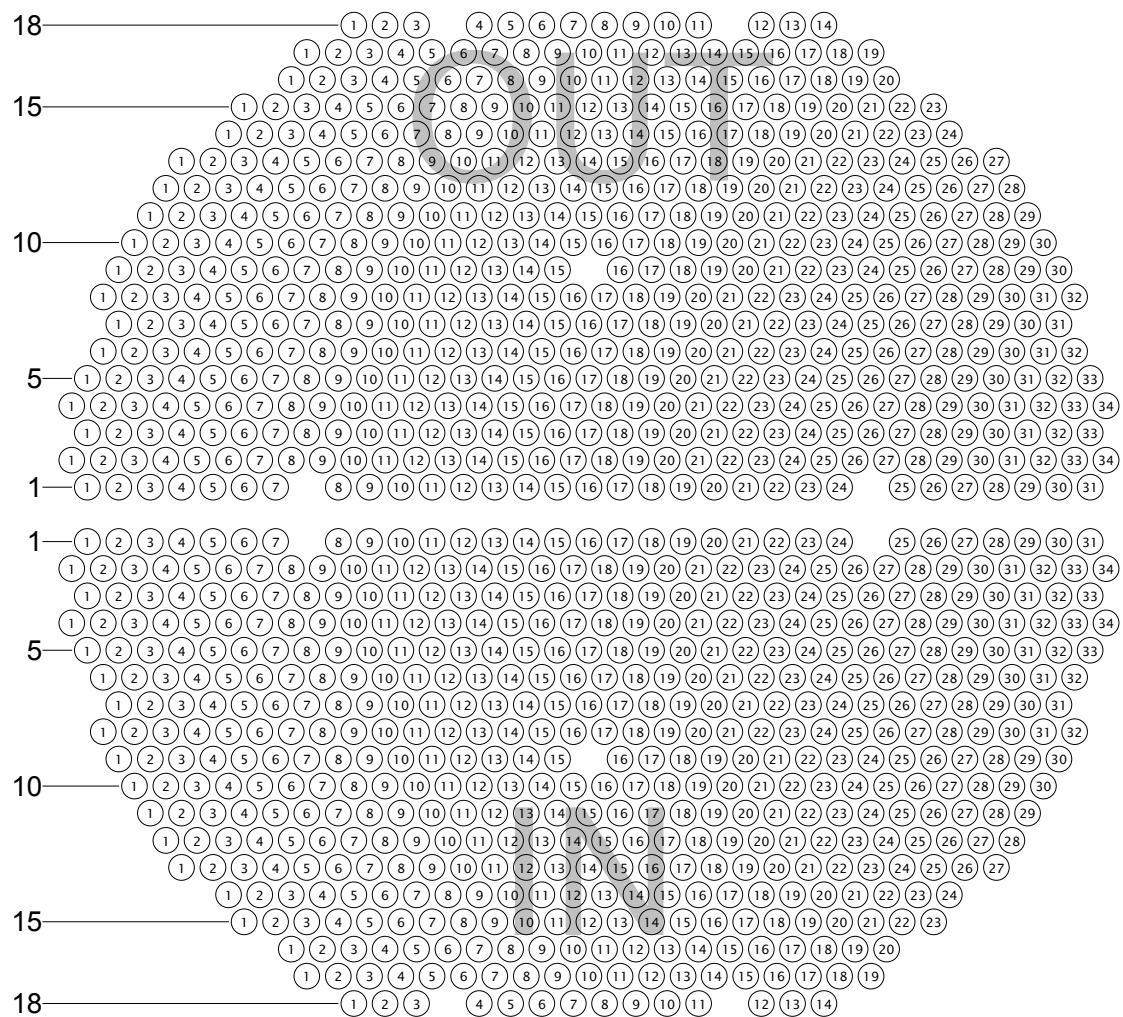

Figure 7-1. Tutorial Component (FWH3A)
For this tutorial, we will create a U-tubed feedwater heater showing both halves (legs) of the tube bundle. The intent is to inspect only the straight-lengths on each leg and we will setup the component file accordingly. Figure 7-1 shows the component that we'll build during this tutorial.
To build the component shown in Figure 7-1:
STEP 1: Look at Figure 7-1. Counting the blank spaces in the first row on the lower half (IN), decide on the total number of tubes in row #1. You should come up with **33**.
STEP 4: Look at Figure 7-1. Decide on the total number of tubes in row #2. You should come up with **34**.